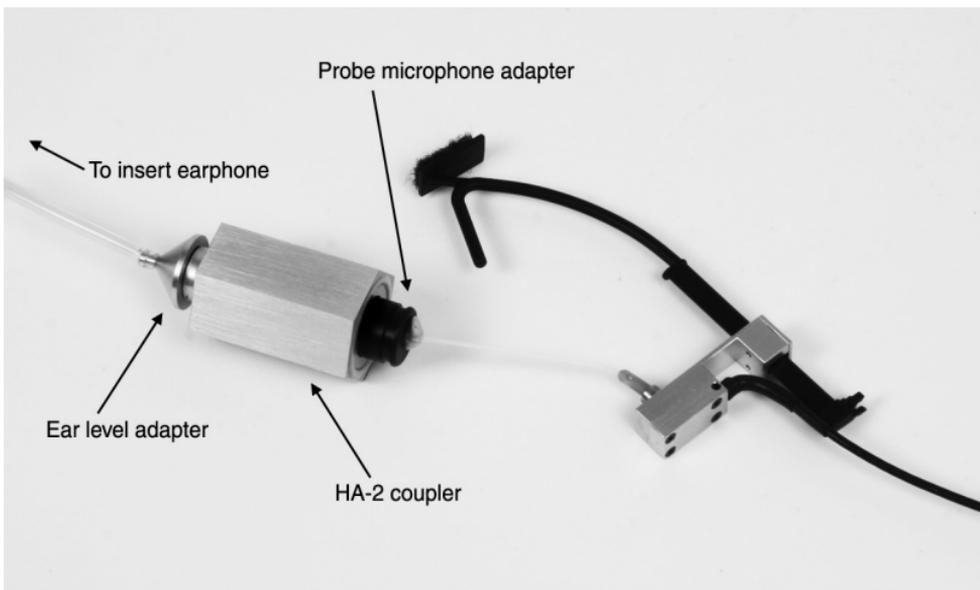

Figure 7: Coupling the probe microphone to the coupler for RECD measurements
3. Insert the probe calibration adapter into the coupler. See Figure 7.